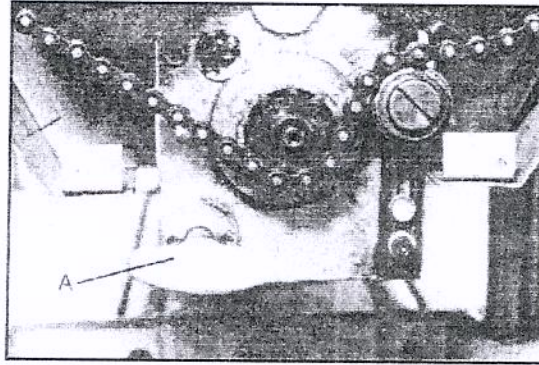

Fig. 11
When the feed rolls are disengaged, the clutch-lever (A) Fig.11 can be either pulled out or pushed in to engage the feed rolls. By pushing in lever, the feed rolls turn and feed the stock at 25FPM for fast planing. By pulling out lever the feed rolls turn and feed the stock at 16FPM for slow planing.